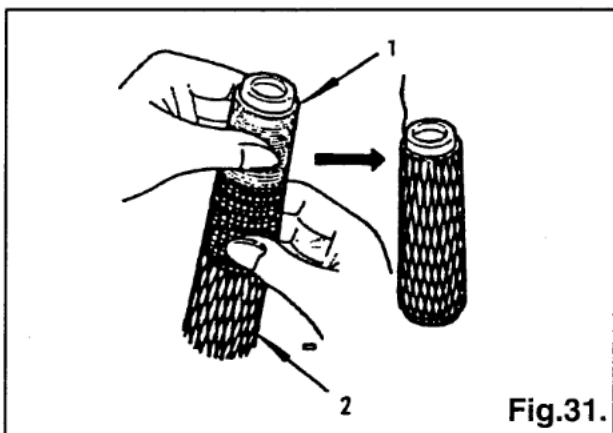

Fig.31.
When using synthetic threads that easily spill off the cone (1), slip the anti-spill sleeve (2) furnished with the machine over the thread from the bottom of cone (1) leaving the thread end to hang free at the top of anti-spill sleeve (2) as shown in Fig.31.